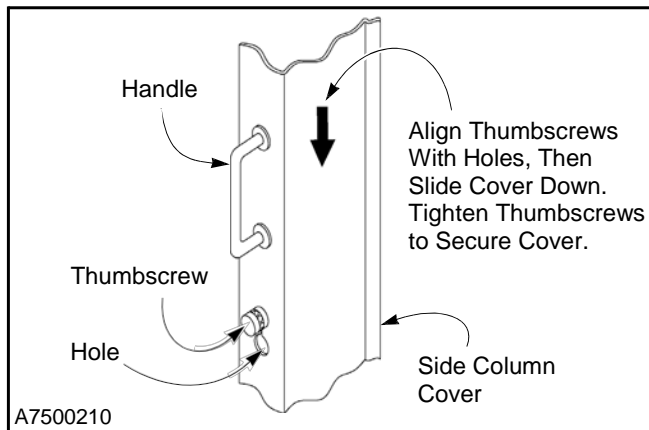
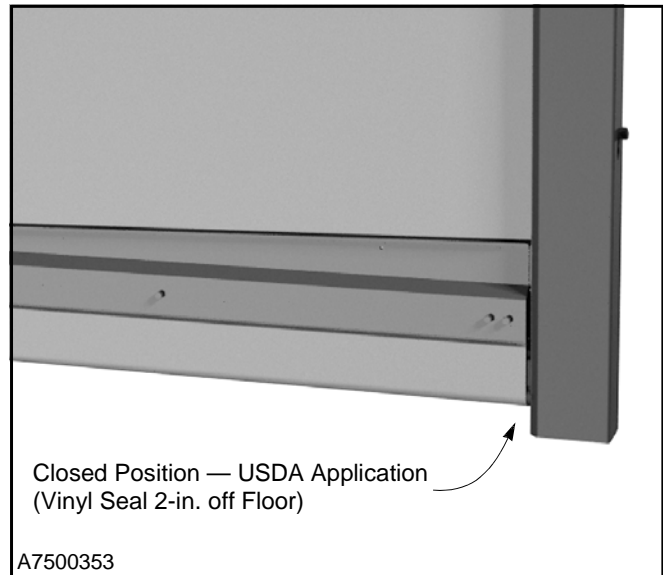

Figure 55
Figure 58
1. Install a side column cover by aligning the side column thumbscrews with the holes in the cover. Then push the cover tight against the column and slide it down until it locks in place. (See Figure 55.)
Depending on the application of the door (USDA or normal), the close-limit position should be adjusted so that the door is in one of the positions shown in Figure 55 and Figure 58.